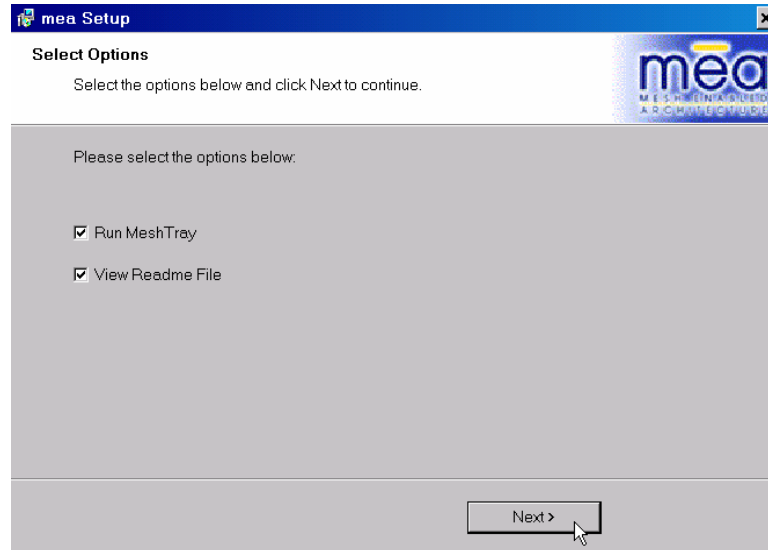

Figure 24. MEA Setup - Select Options Dialog Box
16. When the file transfer is complete, a dialog box will be displayed as shown in Figure 24 that allows the user to view the *ReadMe* file for the most current release information. It also allows the user to immediately run MeshTray. Click on **Next** to proceed with the installation process.